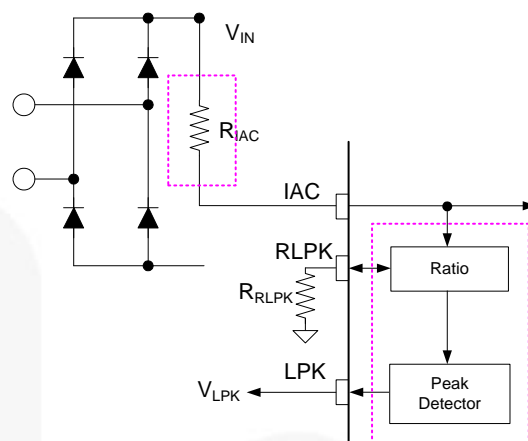

Figure 29. Relationship of $V_{IN.PK}$ to V_{LPK}
The relationship of $V_{IN.PK}$ to V_{LPK} is shown in Figure 29. The peak detection circuits detect the V_{IN} information from I_{AC} . R_{LPK} sets the ratio of V_{IN} to V_{LPK} via a resistor R_{RLPK} , as described in Equation (8). The target value of V_{LPK} is one percent (1%) of $V_{IN.PK}$. The maximum V_{LPK} cannot be over 3.8 V when system operation is at maximum AC input.